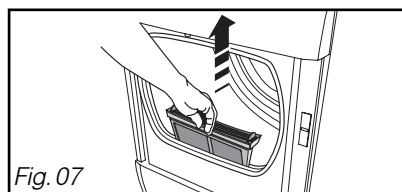

Fig. 07
- Remove it from its housing by pulling it upwards (Fig. 07)